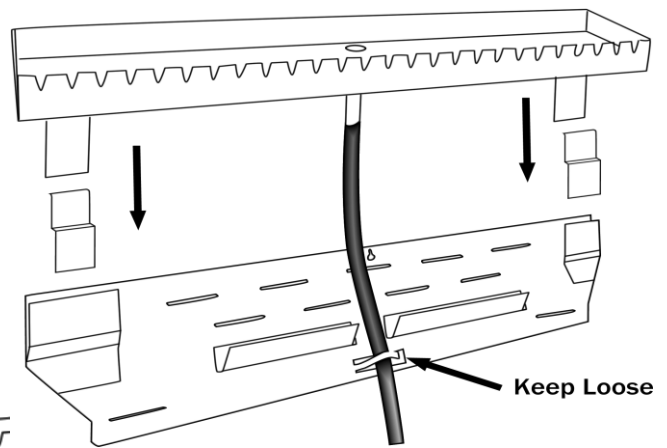

Fig 3.3
3. Locate the Water Dispensers (E). The water dispenser (E) will sit in the pockets on the stone wall bracket (B). Until the stone is mounted it will need to be placed temporarily above the bracket so the stone can be positioned on the bracket cleat. Starting with only the center Wall Bracket (B) place one Pocket Clip (M) inside each of the wall bracket pockets (B) (Fig 3.3).